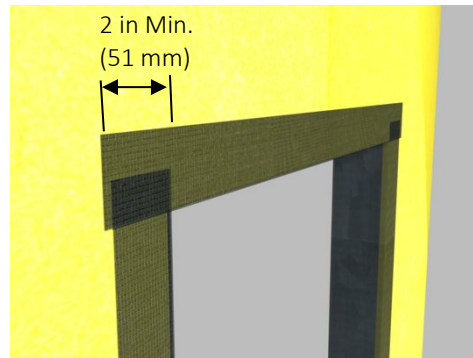

Fig. 4
- 5) Install the AquaFlash System at the head overlapping the jamb pieces a minimum of 51 mm (2 in) - Figure 4.